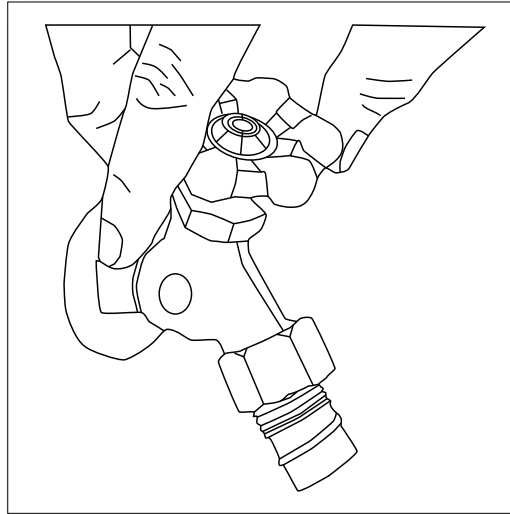

Fig. 17
***!Turn on the water supply at the faucet.!* (Fig. 17)**